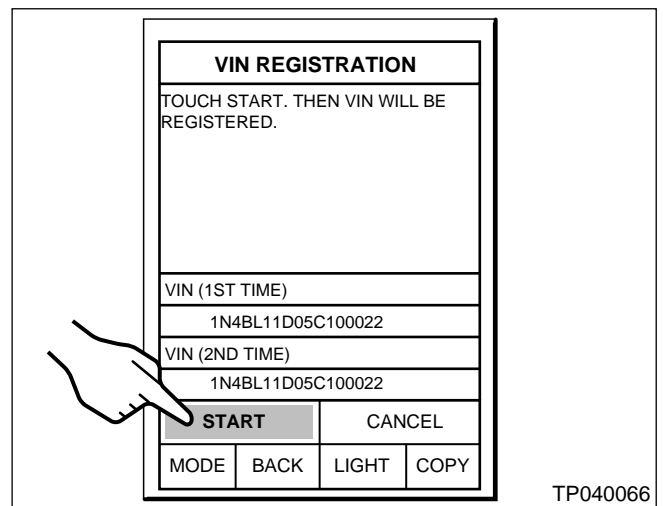

Figure 17
- j. Select **START** on the “VIN Registration” screen to complete the VIN registration process. See Figure 17.